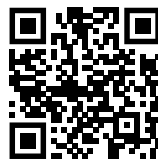

Fig. 127
- Hapni Liebherr SmartMonitoring Dashboard. (shihni Fig. 127)